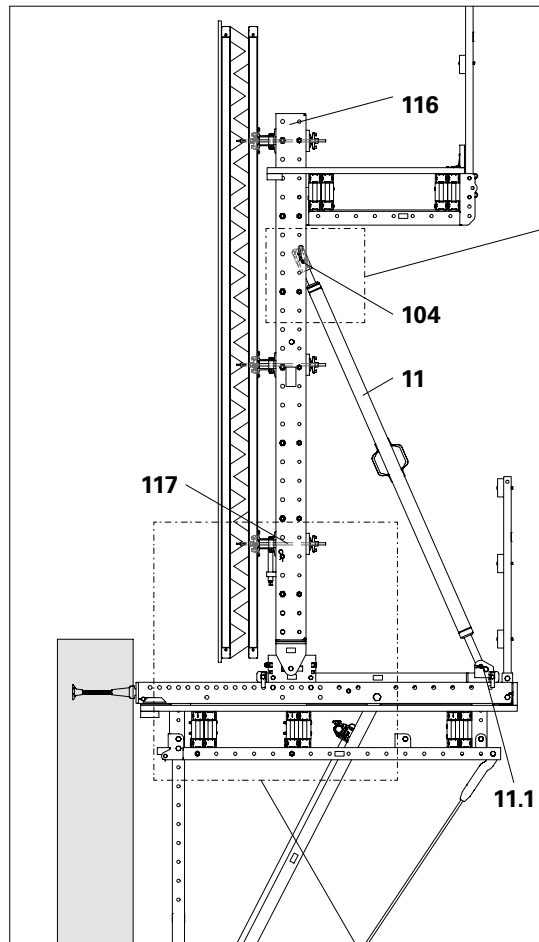

Fig. C3.01
1. Mount Height Adjustment Unit-2 CB/SCS/RCS (102) on the Climbing Rail (116) using the bolts \varnothing 25 mm and cotter pins 4/1 which are included in the delivery.
2. Mount the Adapter for Adjusting Unit SCS/RCS (105) on the Climbing Rail using locking pins 2 x \varnothing 21 mm and 2 x \varnothing 26 mm as well as cotter pins 4/1 and 5/1 which are included in the delivery.
3. Mount the top side of the Heavy-Duty Spindle SLS (11) with the Spindle Adapter (104) to the Climbing Rail.
4. Mount each formwork waler with Tie Rod DW 15 (117), Wingnut DW 15 (114), Anchor Plate DW 20 (113) and Wingnut Counterplate DW 15 (115) to the Climbing Rail.
6. Mount the Adapter for Adjusting Unit (105) on the Adjusting Unit (2.11) using locking pins \varnothing 26 mm and cotter pins 5/1.
7. Mount the bottom side of the Heavy-Duty Spindle SLS (11.1) with Reducing Bushing \varnothing 26 – 21 (103), locking pin \varnothing 21 mm and cotter pin 4/1 on the Crossbeam Unit (2).
- (Fig. C3.01 – C3.01b)